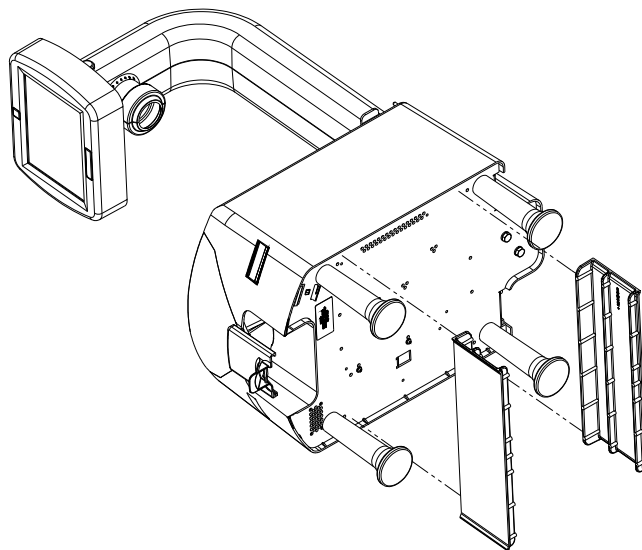

Figure 1.5 Platter Bracket Installation
3. Position one of the platter holders on the chassis with the ridges facing the inside (refer to Figure 1.5 for an illustration).